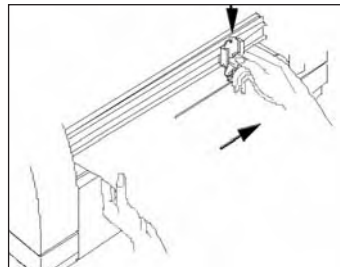

Figure 2
3) Grasp film with one hand, press the cutter downward into the application and slide it first to one end of the application, then to the other end to complete the cut (Figure 2 & 3).